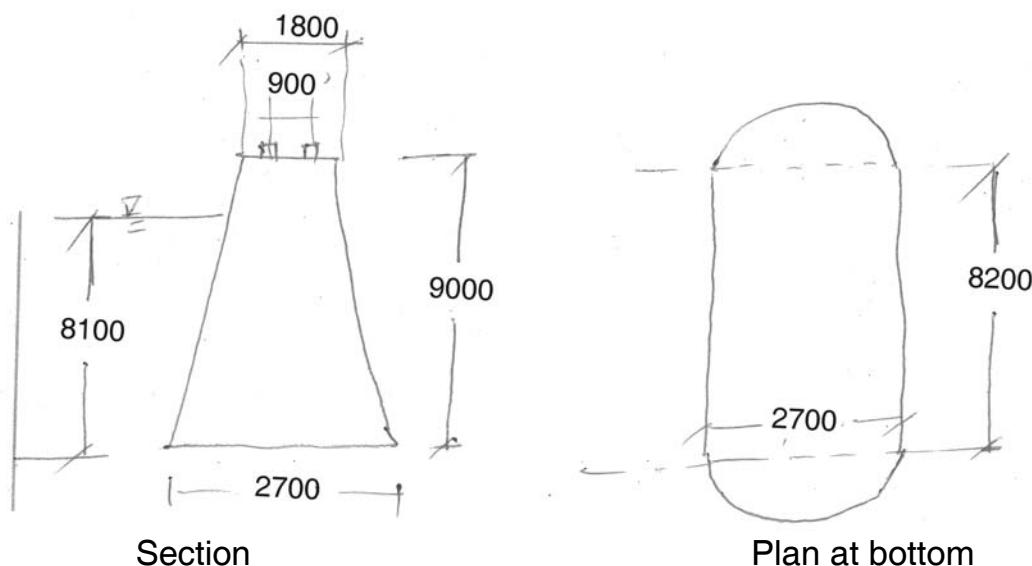

Fig. 4.1
4. Verify the stability of pier shown in fig. 4.1 for following data : 13